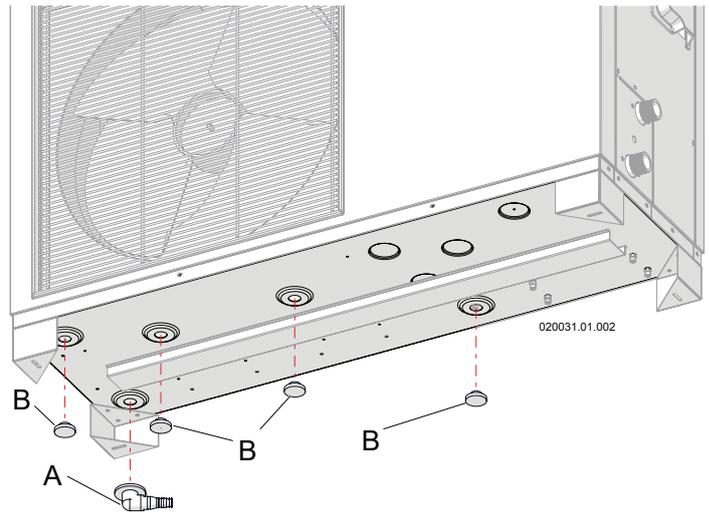

Figure 5-7 - Holes closure (B) and drainage fitting (A)
The appliance is designed for conveying and draining the condensate that forms on the battery. To do this, close the unused drain holes (B) and insert the condensate drain fitting in the desired hole (Figure 5-7).
- ☞ It is recommended to mount the drainage fitting in position "A", as shown in the Figure 5-7.
- ☞ It is recommended to seal the caps (B) and the condensate drain fitting (A) with silicone.